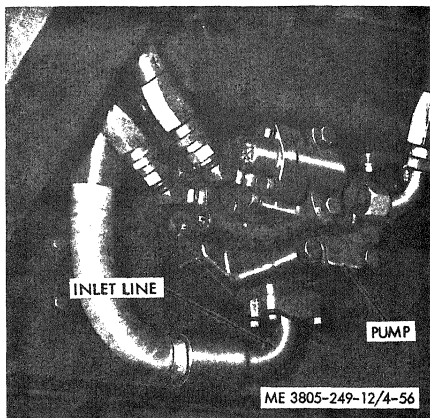

Figure 4-56. Hydraulic pump.
a. Removal. Refer to figure 4-56.
(1) Drain the hydraulic reservoir and the power control housing
- (2) Remove the relief valve (para 4-64).
- (3) Disconnect hydraulic inlet and outlet lines at the pump. Cap or plug openings.